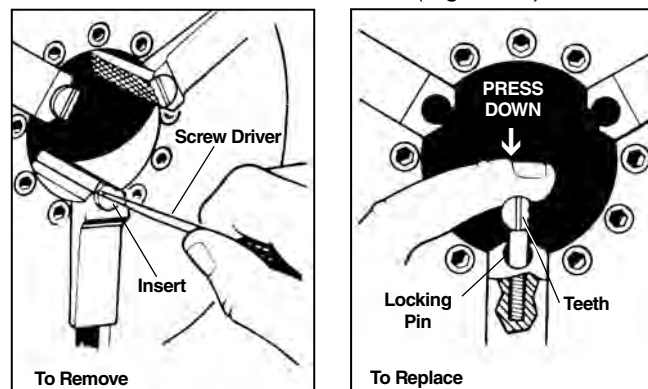

Figure 33 – Replacing Jaw Inserts
1. Place screwdriver in insert slot and turn 90 degrees in either direction. Remove insert (*Figure 33*).
2. Place insert sideways on locking pin and press down as far as possible (Figure 33).